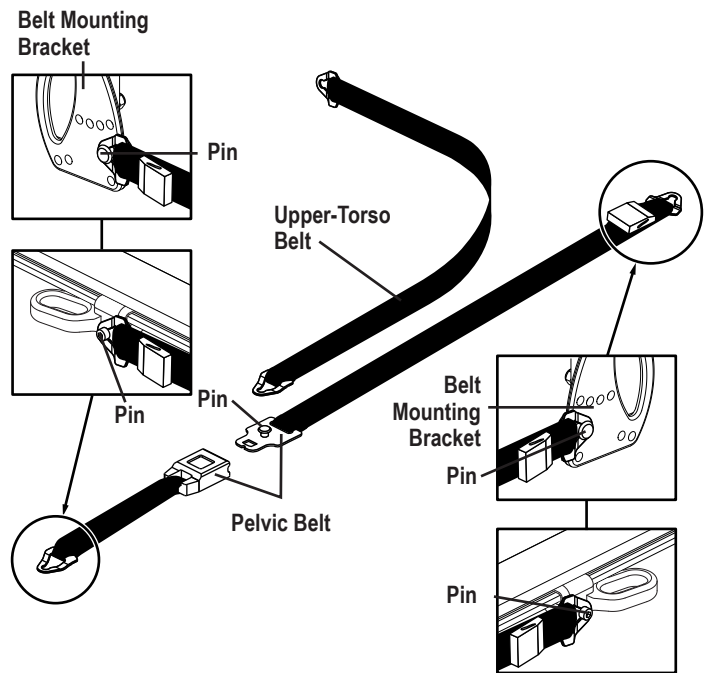

Figure 10. Power Chair-anchored Belt Restraint
- If your power chair is equipped with a crash-tested pelvic belt that is anchored to the seat frame, complete the restraint system by attaching the lower end of the WTORS upper-torso belt to the pelvic belt by referring to the WTORS manufacturer's instruction. Crash-tested power chair-anchored pelvic belts will be labeled to indicate compliance to the ANSI/RESNA WC/Vol 4, Section 19/ISO 7176-19 standards. See figure 10.